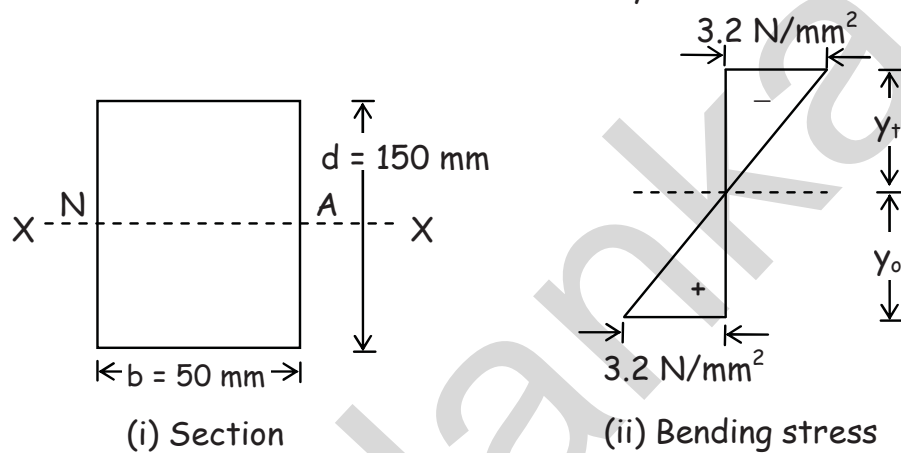

Fig. 1
- (A) Data : A rectangular section as shown in Figure 1,